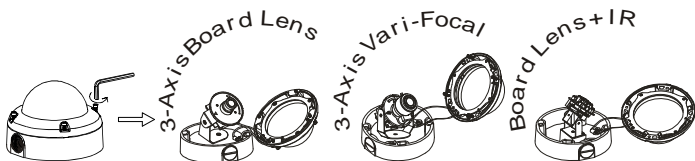

Fig. 1
1. Use the provided L-wrench; loosen the tamper-resistant housing cover with screws still attached on the cover (Fig. 1).